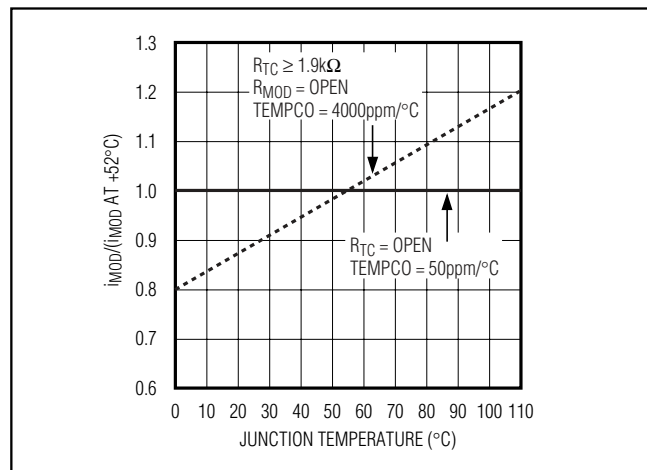

Figure 6. Modulation Current vs. Temperature for Maximum and Minimum Temperature Coefficient
The amplitude of the modulation current is set with resistors at the MODSET and temperature coefficient (TC) pins. The resistor at MODSET (R_{MOD}) programs the temperature-stable portion of the modulation current, and the resistor at TC (R_{TC}) programs the temperature-increasing portion of the modulation current. Figure 6 shows modulation current as a function of temperature for two extremes: R_{TC} is open (the modulation current has zero temperature coefficient), and R_{MOD} is open (the modulation temperature coefficient is $4000ppm/^{\circ}C$). Intermediate temperature coefficient values of the modulation current can be obtained as described in the *Design Procedure* section. Table 2 is the R_{TC} and R_{MOD} selection table.